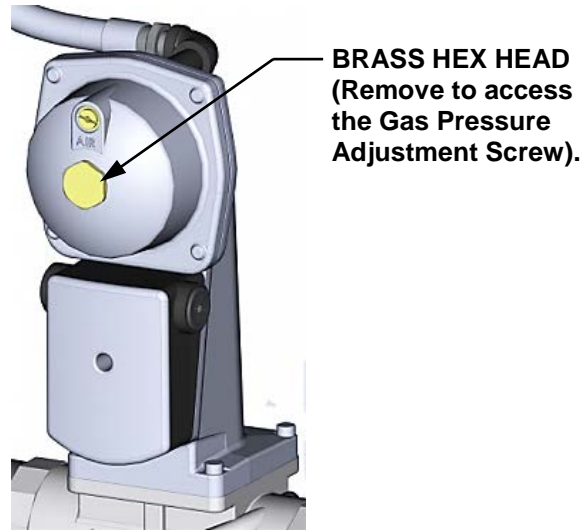

Figure 4-3: Gas Pressure Adjustment Screw Location
10. Next, verify that the gas pressure downstream of the SSOV is set to 3.6 ± 0.2 " W.C. If gas pressure adjustment is required, remove the brass hex nut on the SSOV actuator to access the gas pressure adjustment screw (Figure 4-3). Make gas pressure adjustments using a flat-tip screwdriver to obtain a gas pressure approximately 3.6 " W.C. \pm 0.2 " W.C.
15. If the oxygen level is not within the required tolerance, the gas pressure on the downstream side of the SSOV must be adjusted using the gas pressure adjustment screw on the SSOV (Figure 4-3). Slowly rotate the gas pressure adjustment (approximately 1/4-turn increments). Allow the combustion analyzer to stabilize following each adjustment. Clockwise rotation reduces the oxygen level, while counterclockwise rotation increases the oxygen level.
10. Next, verify that the gas pressure downstream of the SSOV is set to 3.9 ± 0.2 " W.C. If gas pressure adjustment is required, remove the brass hex nut on the SSOV actuator to access the gas pressure adjustment screw (Figure 4-3). Make gas pressure adjustments using a flat-tip screwdriver to obtain a gas pressure within the range of 3.9 " W.C. ± 0.2 " W.C.
14. Compare the measured oxygen level to the oxygen range shown below. Also, ensure that the nitrogen oxide (NO_x) and carbon monoxide (CO) readings do not exceed the values shown. If you are not in a "NO_x-limited" area and/or do not have a NO_x measurement in your analyzer, set the oxygen (O₂) at $5.5\% \pm 0.5\%$.